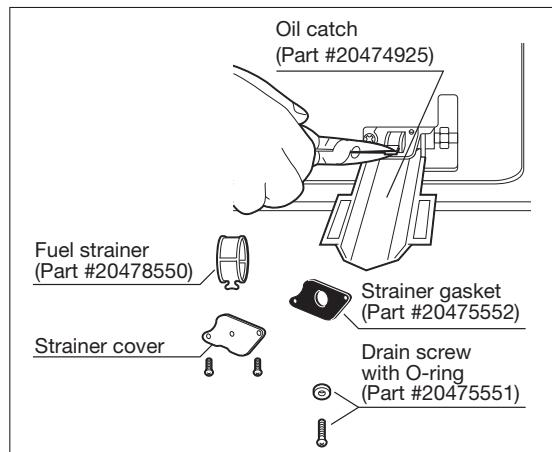

Figure 4-1 CLEAN FUEL INLET STRAINER
- C. To drain the upper portion of the fuel sump, carefully loosen the drain screw, there is no need to remove (phillips head screw) which is located to the left of strainer cover. (See Fig. 4-1.)